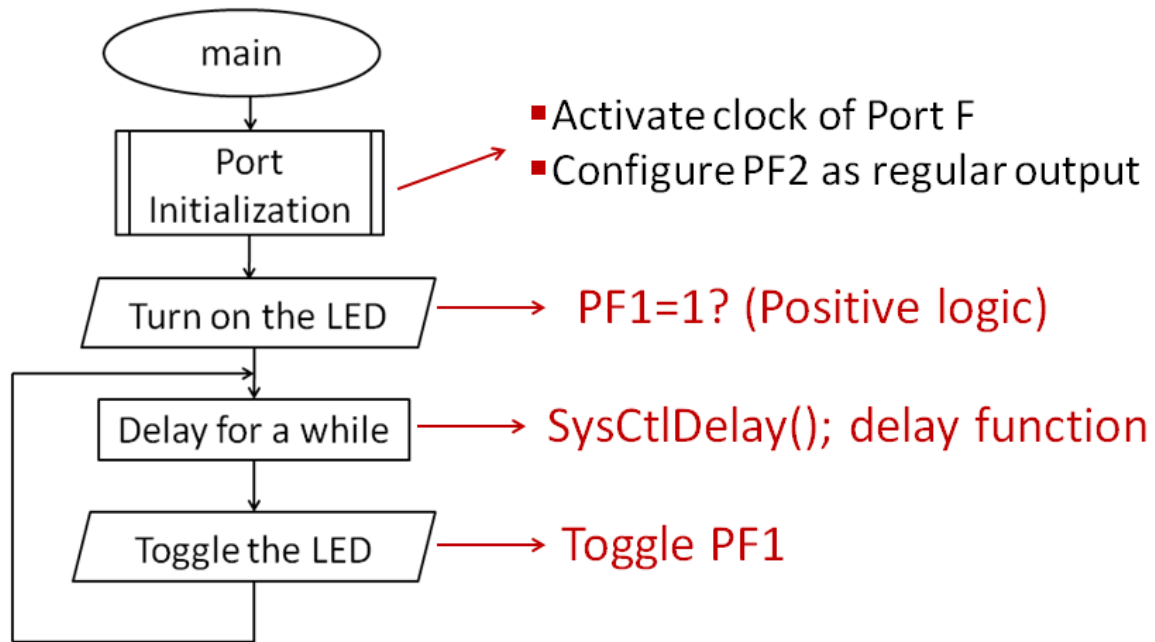

Figure 32
1. The pseudo code and the flowchart (Figure 32) of the system design are shown below, illustrating the basic steps for the system.